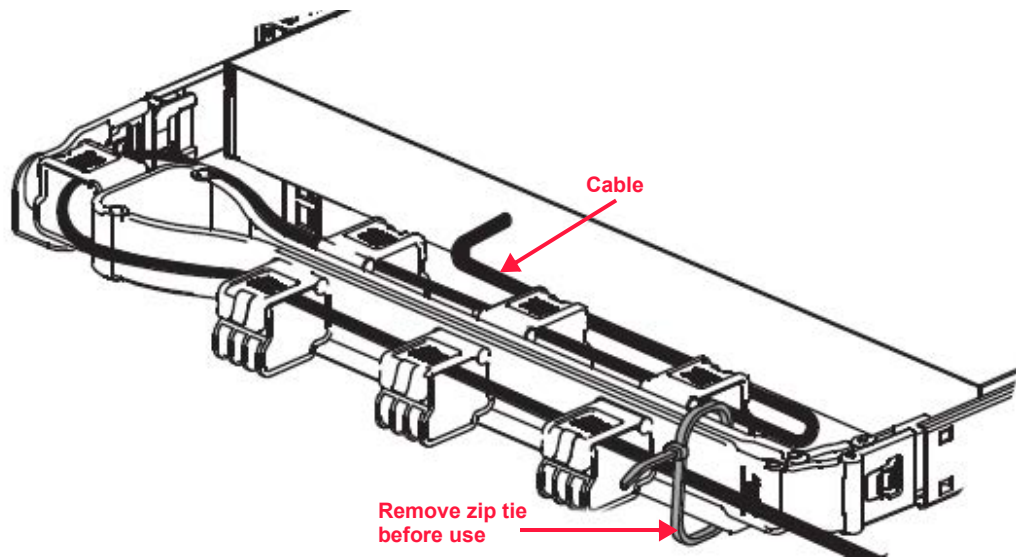

Figure 2.21 Assembled CMA
CAUTION: If the CMA ships preinstalled, a zip tie strap will secure the CMA to the cross bar during transportation to prevent damaging the CMA. This strap must be removed prior to initial use. See Figure 2.21 on page 27.
3. Slide the CMA body connector (E) onto the body rail connector (F) until the connector release button clicks.
4. Slide the inner CMA arm connector (A) onto the inner rail connector (B) until the connector release button clicks.
5. Slide the outer CMA arm connector (C) onto the outer rail connector (D) until the connector release button clicks.
7. Starting with the thickest gauge cable first, run each cable through the loops on the CMA as demonstrated in Figure 2.21.